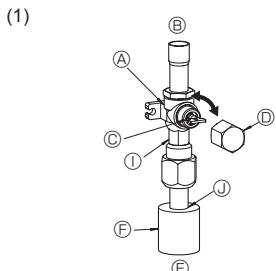
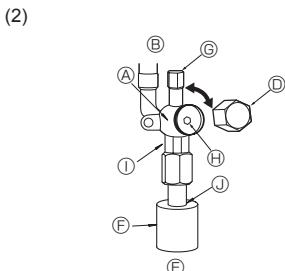

Fig. 4-6
Fig. 4-7
- (1) Gas side of RP100-250 (Fig. 4-6)
- ① Remove the cap, pull the handle toward you and rotate 1/4 turn in a counter-clockwise direction to open.
- ② Make sure that the stop valve is open completely, push in the handle and rotate the cap back to its original position.
- (2) Liquid side of RP100-250 and Gas/Liquid side of RP35-71 (Fig. 4-7)
- ① Remove the cap and turn the valve rod counterclockwise as far as it will go with the use of a 4 mm hexagonal wrench. Stop turning when it hits the stopper.